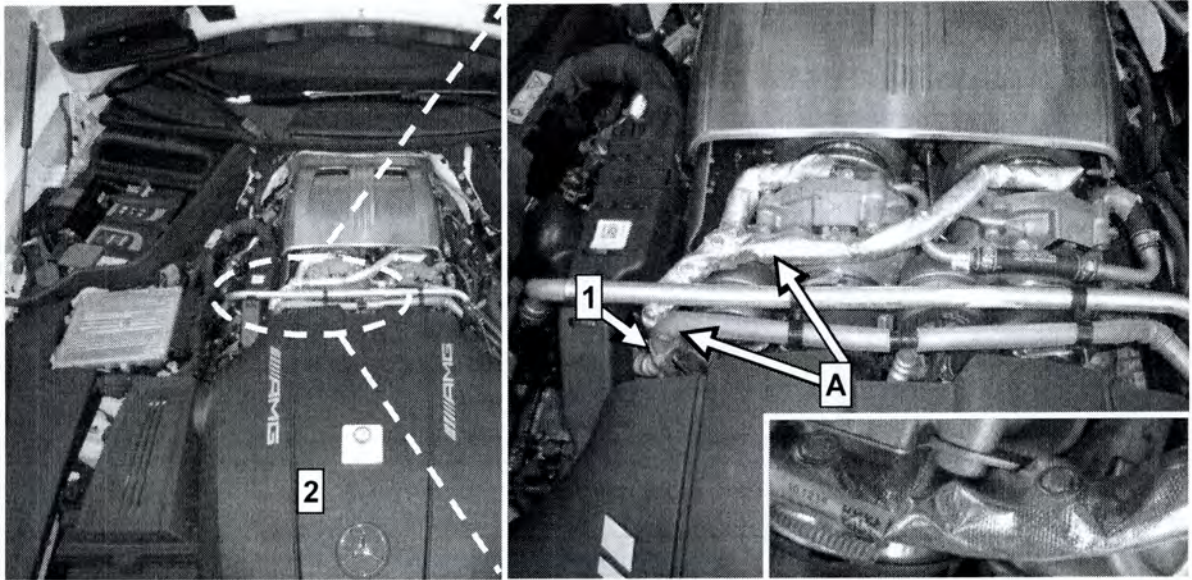
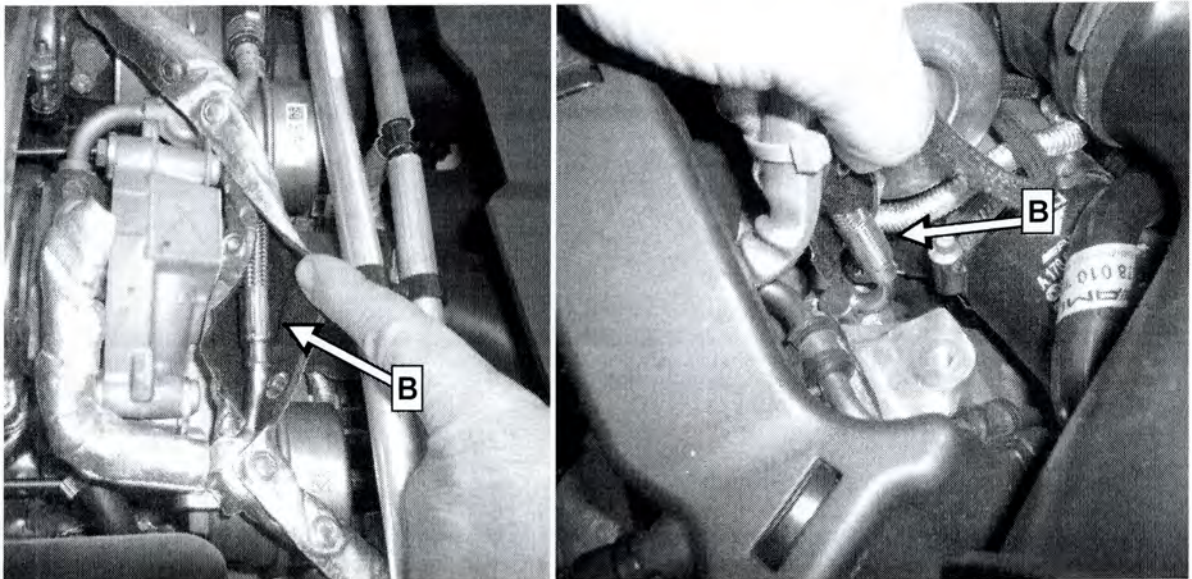

Figure 1
Figure 2
1. Open (unsnap) heat shielding (A, Figure 1) in area of hose crimping (B, Figure 2) at oil feed line of turbocharger.
- Remove engine cover (2, Figure 1)
- Install new cable tie (1, Figure 1) securing turbo oil feed line to engine.